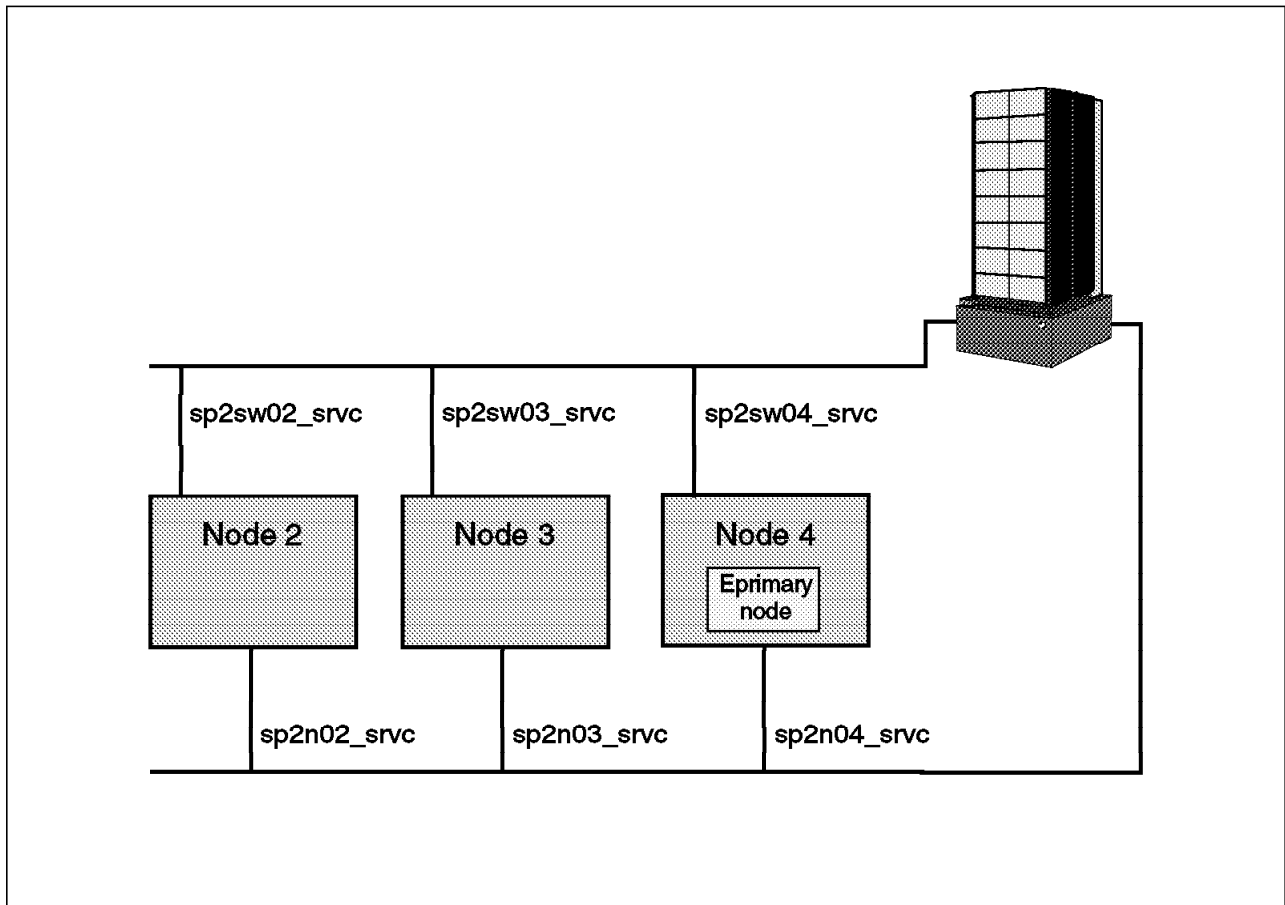

Figure 35. Results after Reintegration of Nodes `sp2n03` and `sp2n02`
- The pictorial presentation of the expected behavior is shown in the following Figure 35.